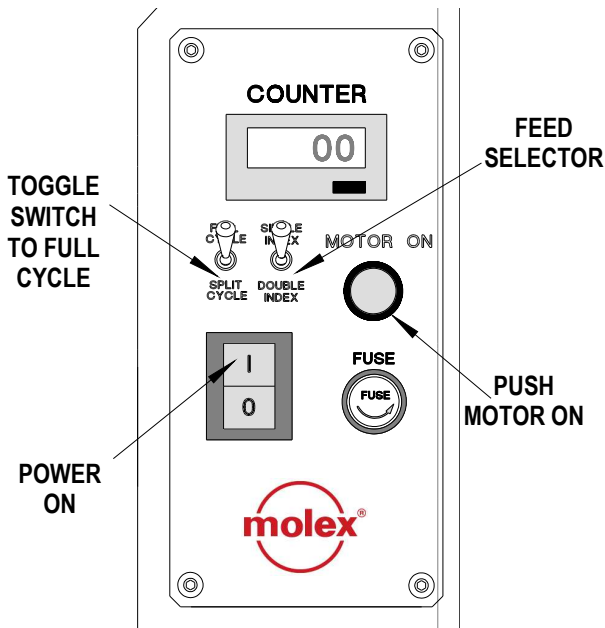

Figure 3-5
“DOUBLE”, depending on the spacing of the taped terminals. See Figure 3-5.
1. Push the toggle switch on the control panel to "Full Cycle". See Figure 3-5.
The split cycle is used mostly for closed barrel terminals. This makes it easier to locate the terminal before crimping the wire. The punch/ram will close partially to assist in locating the terminal for the termination. Then the wire can be placed into the terminal and be terminated. To setup the machine for split cycle push the toggle switch on the control panel to "Split Cycle". See Figure 3-5.